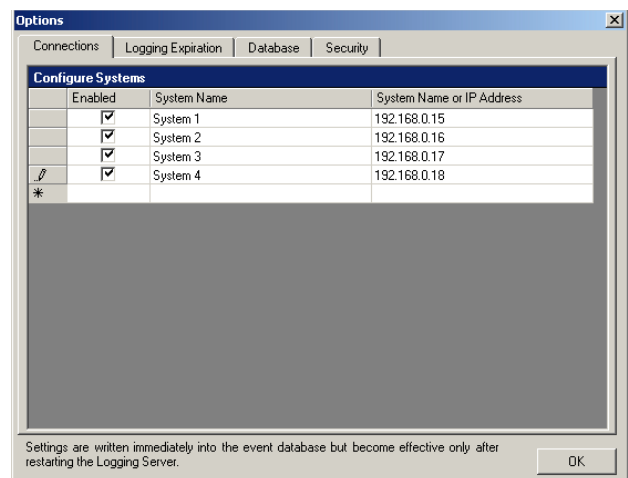

figure 56.8: Add a system (3)
- 3 Click the *System Name or IP Address* field and enter the IP address or the name of the network controller of the system to which the *Logging Server* must connect. For example, *192.168.0.18* (see figure 56.8).